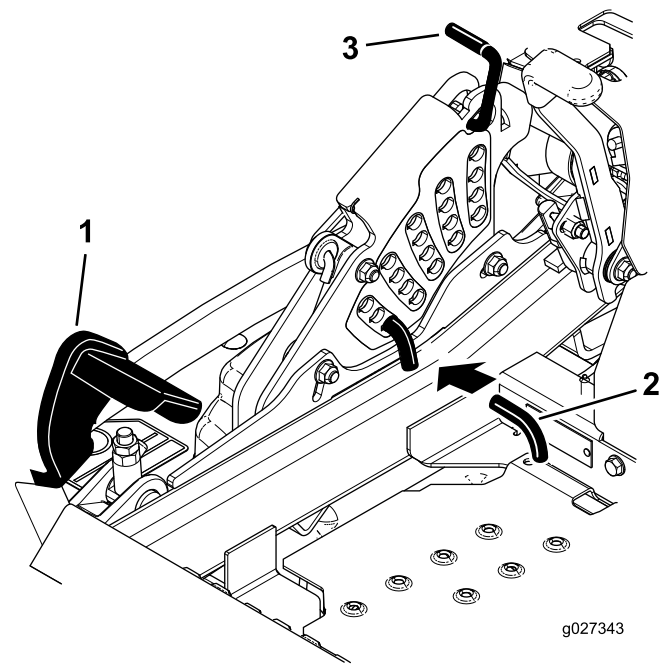

Figure 112
5. Push the deck-lift pedal all the way forward and the deck latches at the 14 cm (5-1/2 inch) transport position (Figure 112).